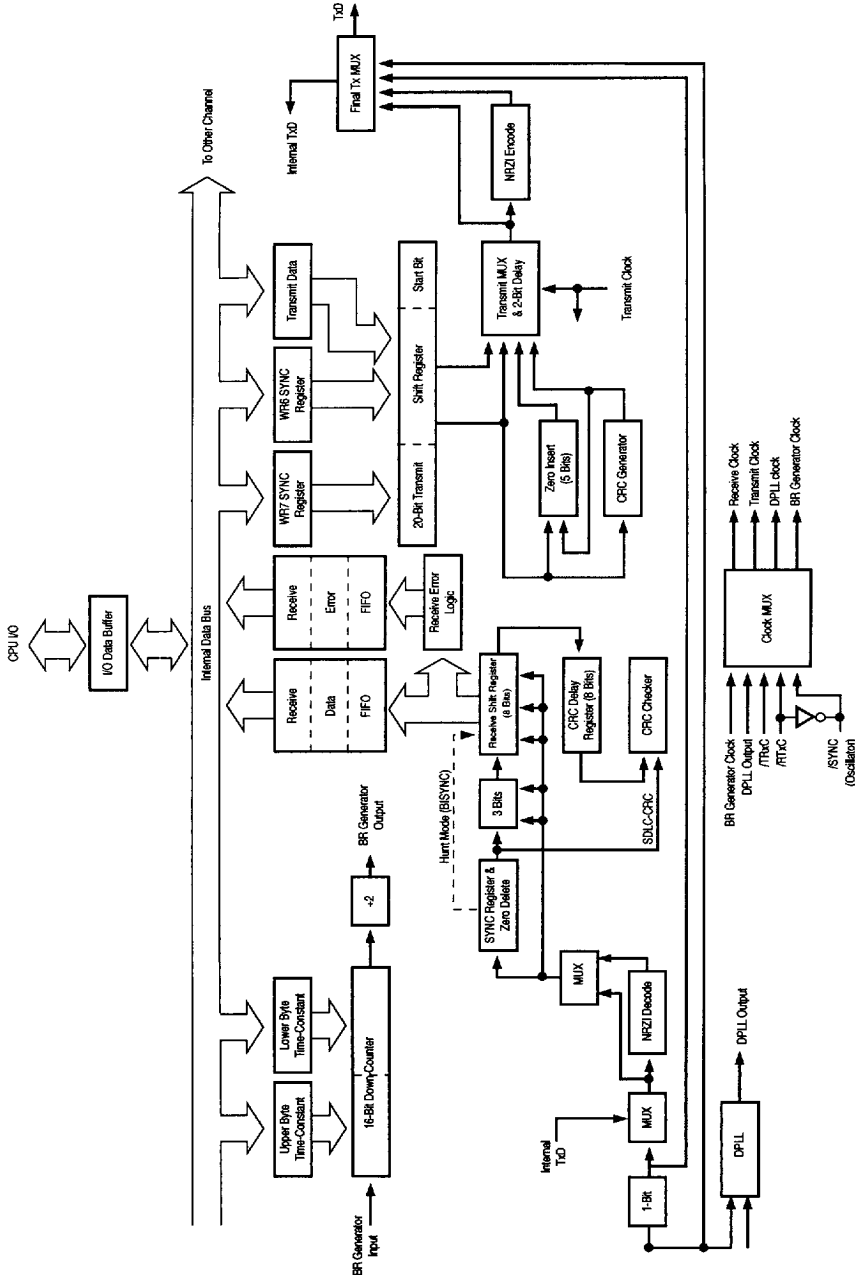

Figure 9. Data Path
**Data Path.** The transmit and receive data path illustrated in Figure 9 is identical for both channels. The receiver has three 8-bit buffer registers in a FIFO arrangement, in addition to the 8-bit receive shift register. This scheme creates additional time for the CPU to service an interrupt at the beginning of a block of high-speed data. Incoming data is routed through one of several paths (data or CRC), depending on the selected mode (the character length in Asynchronous modes also determines the data path).